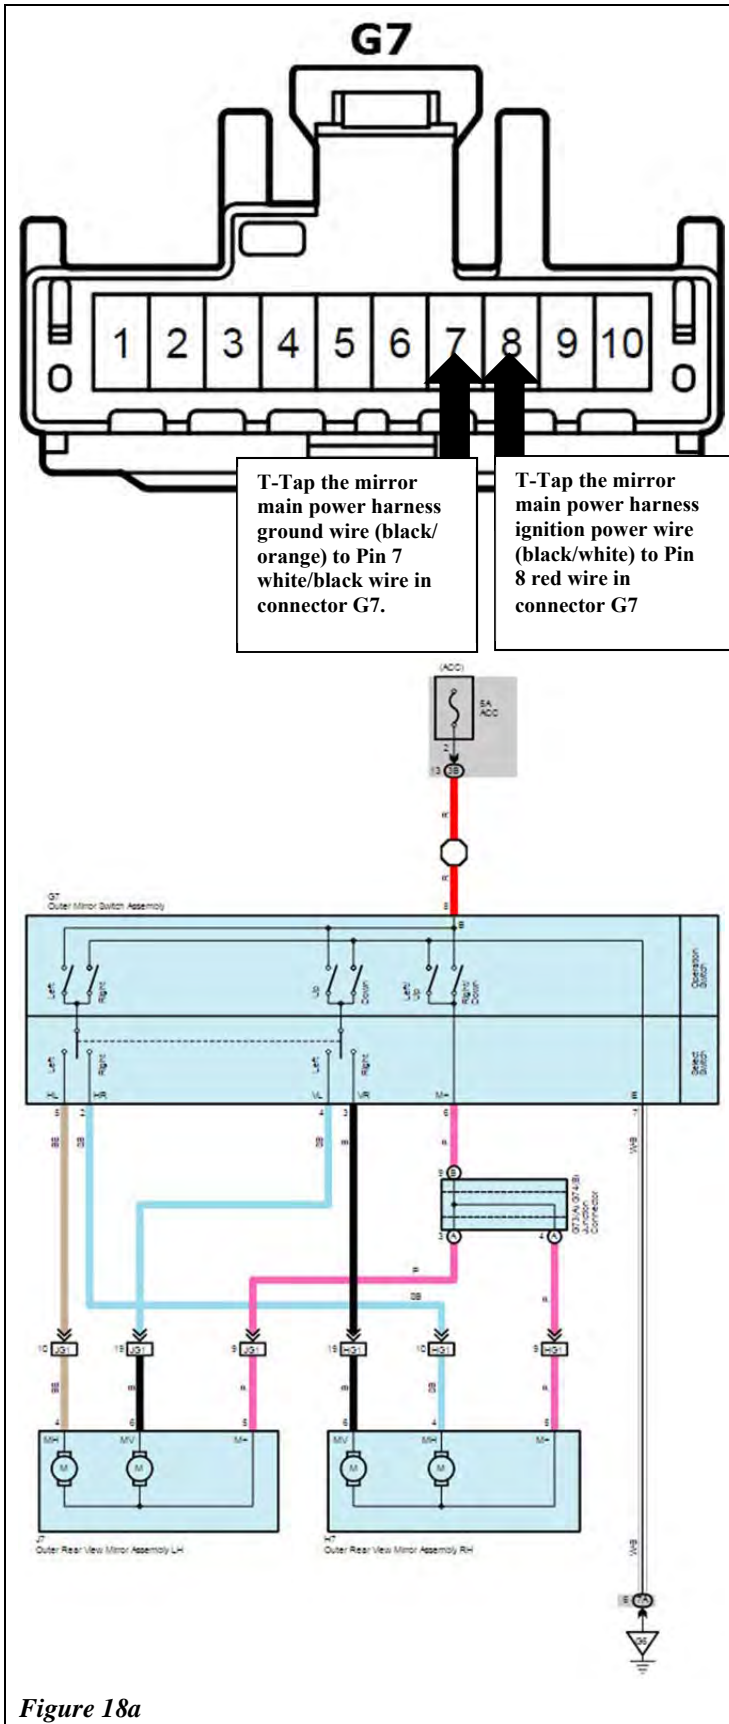

Figure 18a
18. T-Tap the mirror main power harness ignition power wire (black/white) to Pin 8 red wire in connector G7. T-Tap the mirror main power harness ground wire (black/orange) to Pin 7 white/black wire in connector G7. See figure 18a and figure 18b.